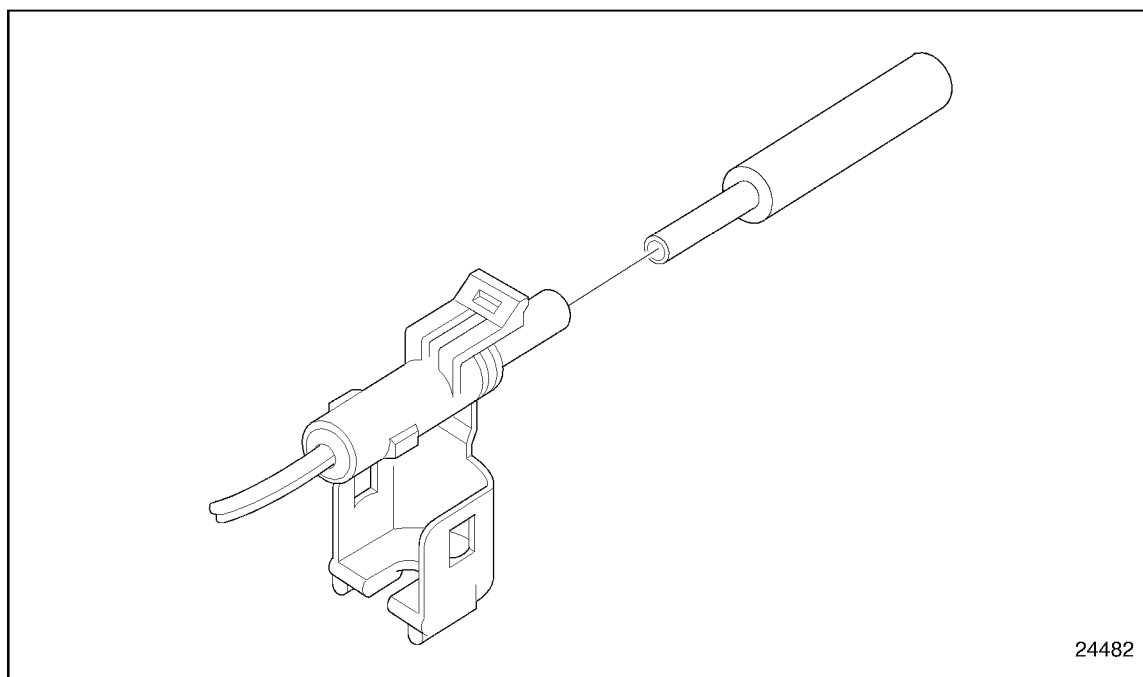

Figure 3-43 Removal Tool Procedure
2. Insert the removal tool straight into the front of the connector cavity until it rests on the cavity shoulder. See Figure 3-43.